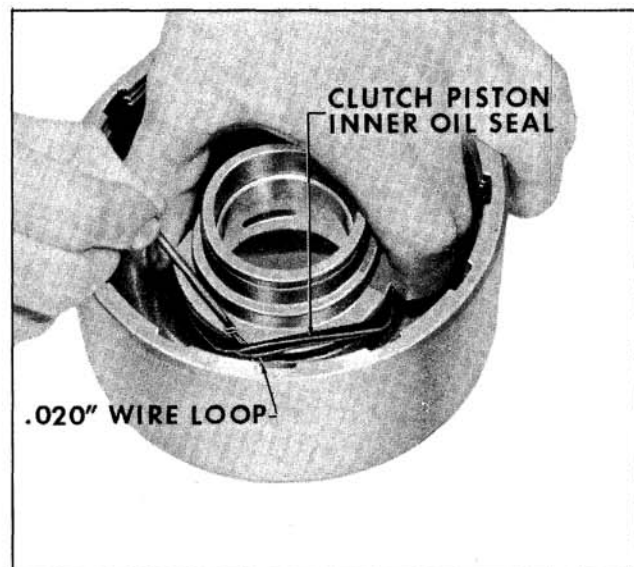

Fig. 6-438 Removing Inner Seal
11. Examine forward clutch piston inner seal. If nicked, torn or worn, remove seal. (Fig. 6-438)